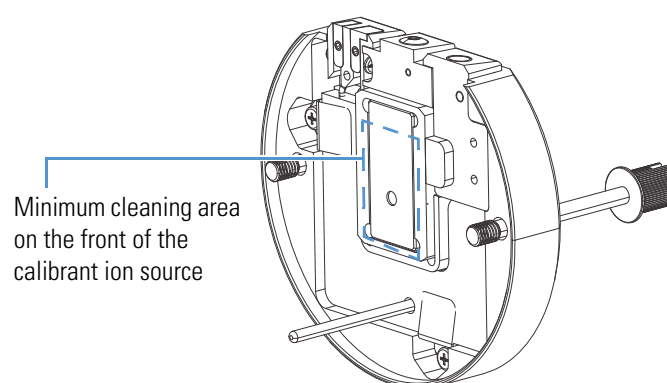

Figure A-7. Front of the IC Source heater interface
3. Clean the front of the IC Source heater interface with the swabs, as shown in Figure A-7.